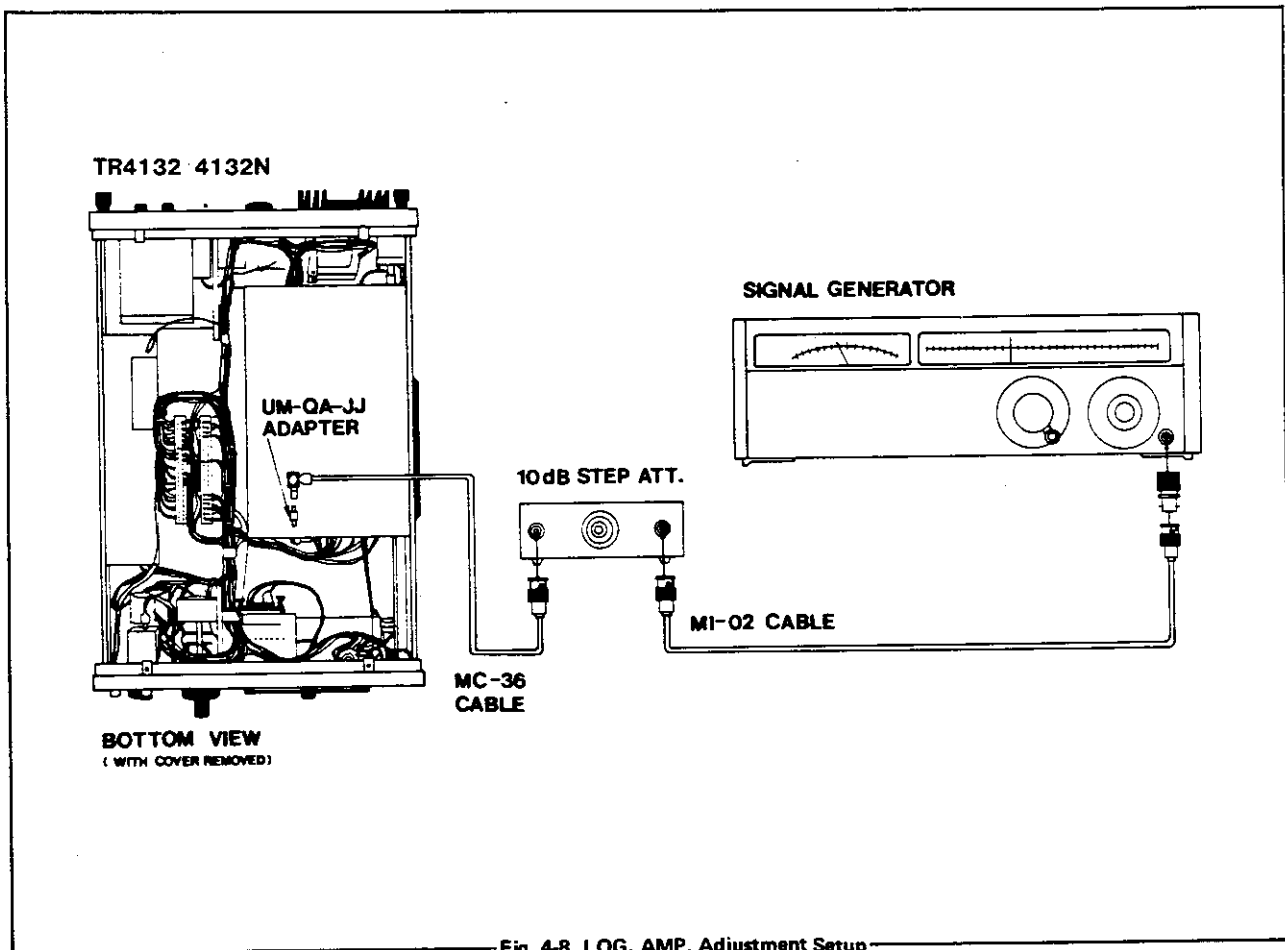

Fig. 4-8 LOG. AMP. Adjustment Setup
- (7) Adjust **FOCUS** if the focus is not distinct. A sharp focus may not be available in case the intensity is too strong, so adjustment of the intensity to appropriate level is also necessary.
- (8) If the trace is tilted relative to the vertical graticule line of the CRT, adjust **TRACE ALIGN** with a screwdriver as shown in [Fig. 4-8].
- (9) With accessory BNC-BNC cable (Stock No. **MI-02**) fitted to the N-BNC conversion adapter (**TR1613**), connect **CAL. OUT.** to **INPUT** on the front panel. The **MO-15** cable is used for **TR4132N**.
- (10) Warm up the instrument for about 30 minutes in this condition.